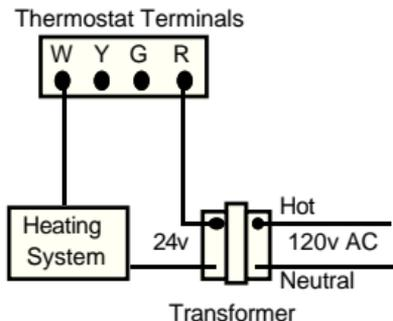

Figure 2. 2-Wire Heat-only
4. Connect wires to the appropriate terminals on the base. See table 1 and figs. 2, 3, and 4 to match the tagged wires with the correct terminals.